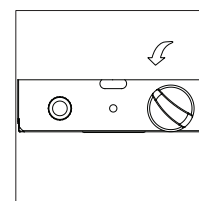

Figure 1
3. Push control knob in and rotate counter-clockwise until it stops (Figure 1).